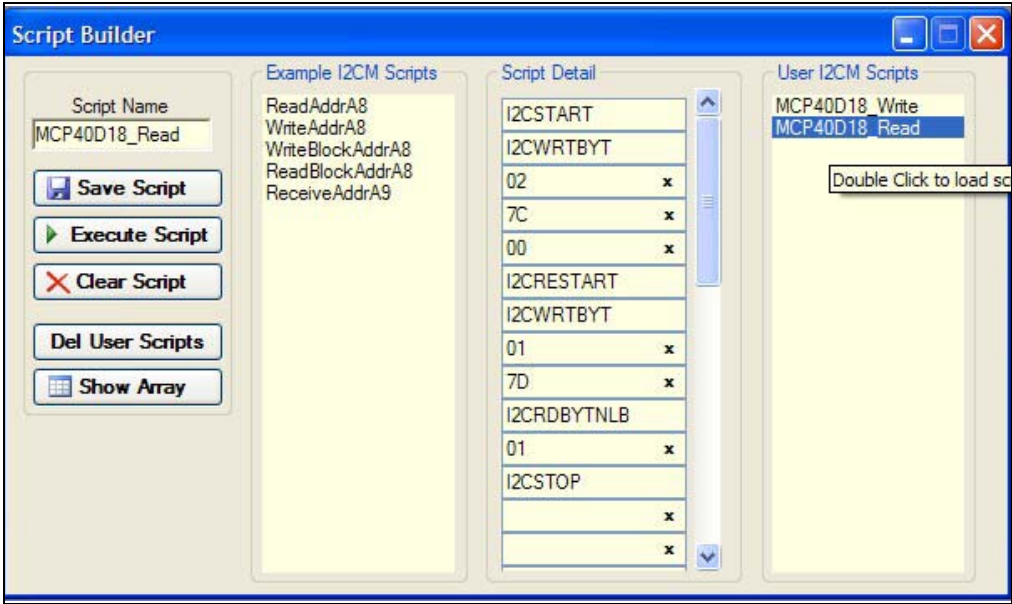

FIGURE 2-14: MCP40D18 Read Script File.
11. Select the “MCP40D18_Read” script in the User I2CM Scripts column. It should look like Figure 2-14.
16. Select the “MCP40D18_Read” script in the User I2CM Scripts column. It should look like Figure 2-14.